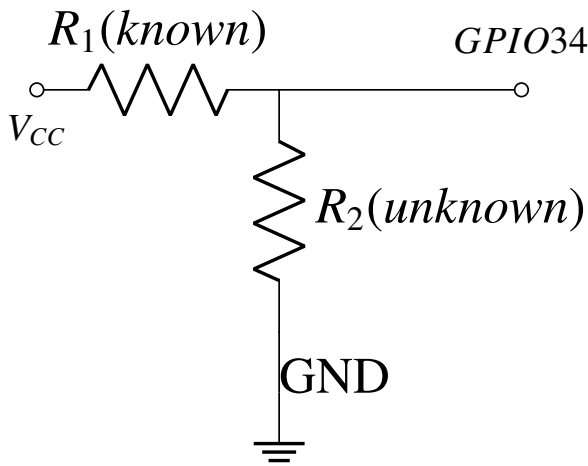

Fig. 3.3.1: Voltage Divider
- 3.3. Let R_1 be the known resistor and R_2 be the unknown resistor. Connect R_1 and R_2 in series such that R_1 is connected to V_{cc} and R_2 is connected to GND. Refer to Fig. 3.3.1